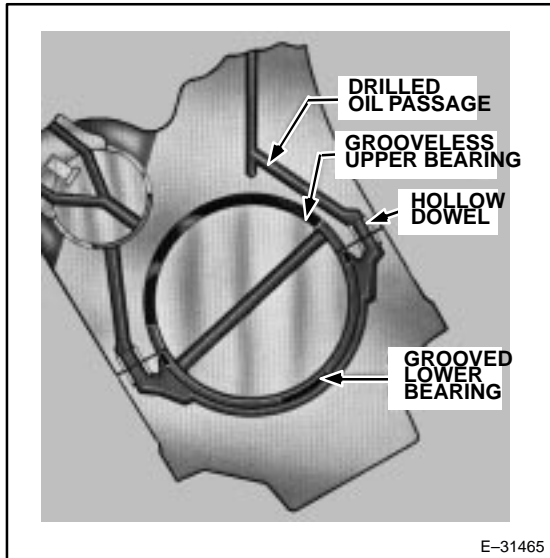
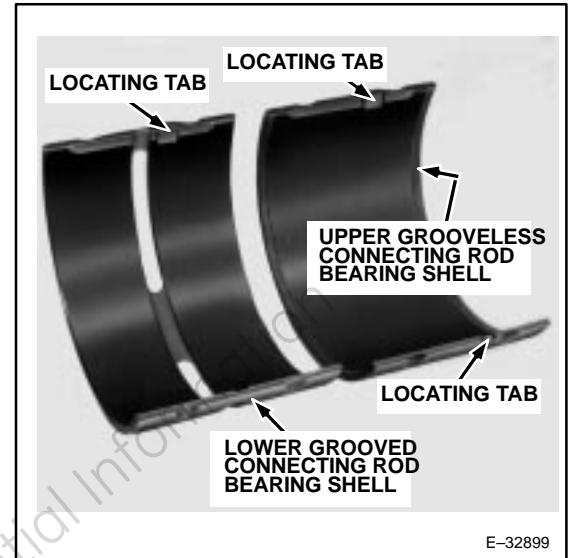

Figure 29. Master Rod Lubricating-Oil Passages.
Figure 30. Connecting Rod Bearing Shells.
Engines with EFI have grooveless connecting rod bearings in the UPPER (rod) positions and grooved connecting rod bearings in the LOWER (cap) positions (Figures 29 and 30). Each grooved bearing has ONE (1) locating tab to locate it in its correct position; each grooveless bearing has TWO (2) locating tabs to prevent inadvertent installation in the lower position (Figure 30).